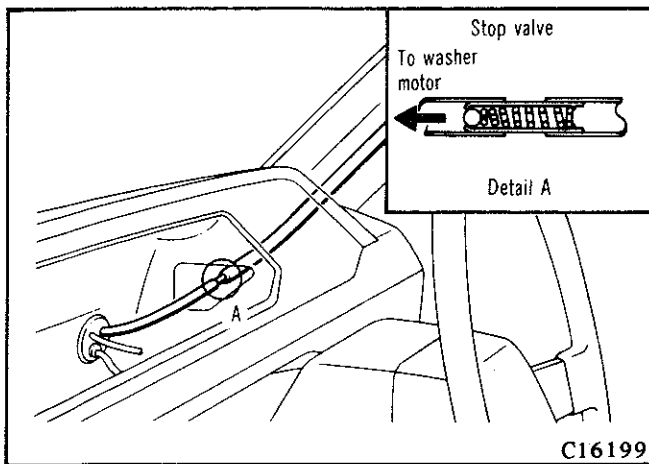

Fig. 7—Location of non return valve
(2) If the rear window washer jet does not supply sufficient fluid and the wiring, fuses and pump motor are operating satisfactorily, check for bent or broken piping and or failure of the non return valve (located in the lower portion of the front pillar). Refer Fig. 7.